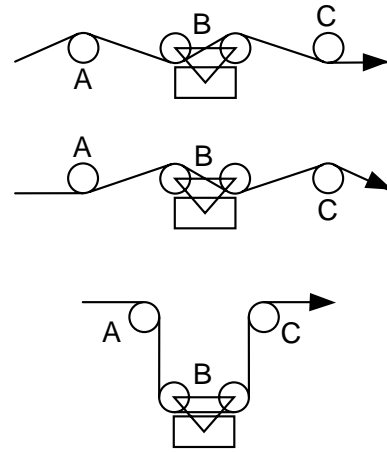

FIGURE 1
1. Position the Web Guide as close as possible to the critical area to which the web is being guided. Any rolls between the lead out roll **C** and the critical area will detract from guiding accuracy (See Figure 1).
2. Find the web path to be used (See Figure 1).